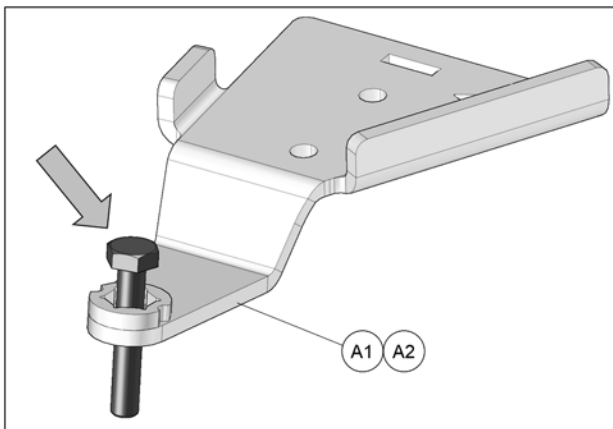

Fig. 13
4. Insert bolt in front anchor bracket (A1-A2) as shown in Fig. 13